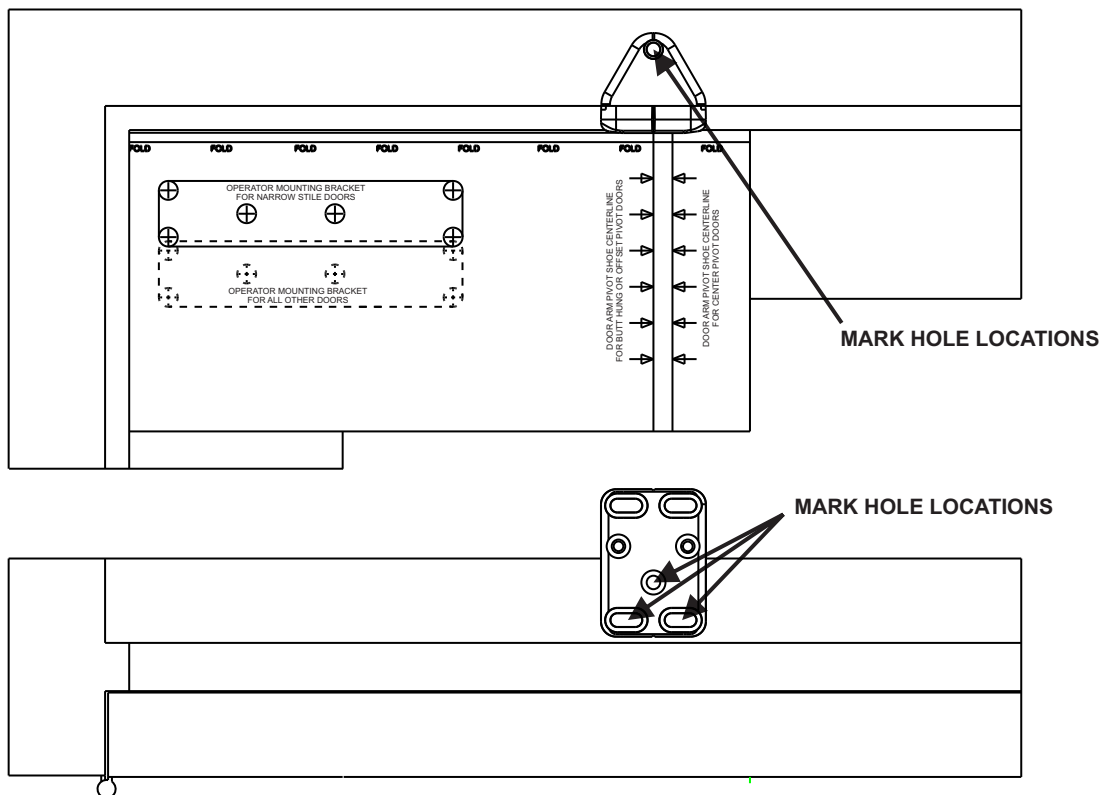

Figure 3
2. Refer to Figure 3 and, using a center punch, MARK the door arm pivot bracket hole locations.